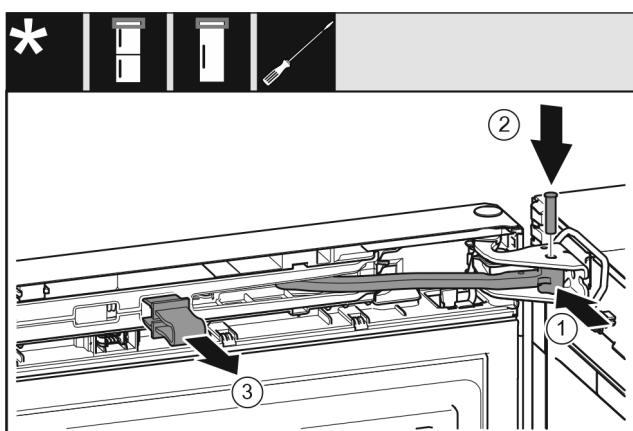

Fig. 56
- Turn the joint *Fig. 56 (1)* in the swap bearing block.
- Insert the pin *Fig. 56 (2)* into the swap bearing block and joint. In the process, make sure that the latching cam is correctly positioned in the groove.
- Remove the locking device *Fig. 56 (3)*.